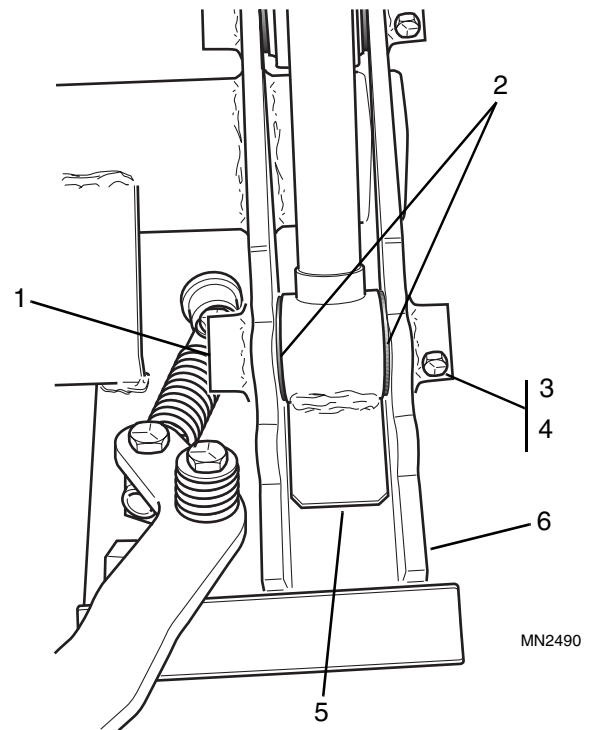

Figure 4-52 Attachment Tilt Cylinder Installation
2. Install the rod end pivot pin (Fig. 4-52, 1) from the inside of the quick attach. Carefully push the pin in [placing shims (2) as required] as far as possible with your hands and make sure pin is going in straight to avoid damage to bushing seals. Then tap the pin with a hammer until you can place the bolt (3) into the pin and install the locknut (4).